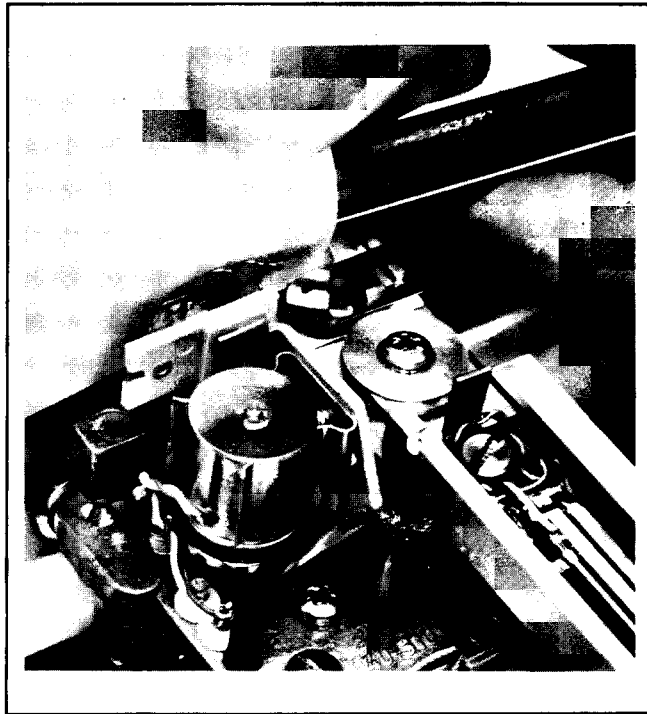

FIGURE 3-7. WIPER PROTECTION
- c. Remove wiper assembly mounting screw and install new wiper (Part No. 5080-8127). Protect slidewire using technique shown in Figure 3-7.